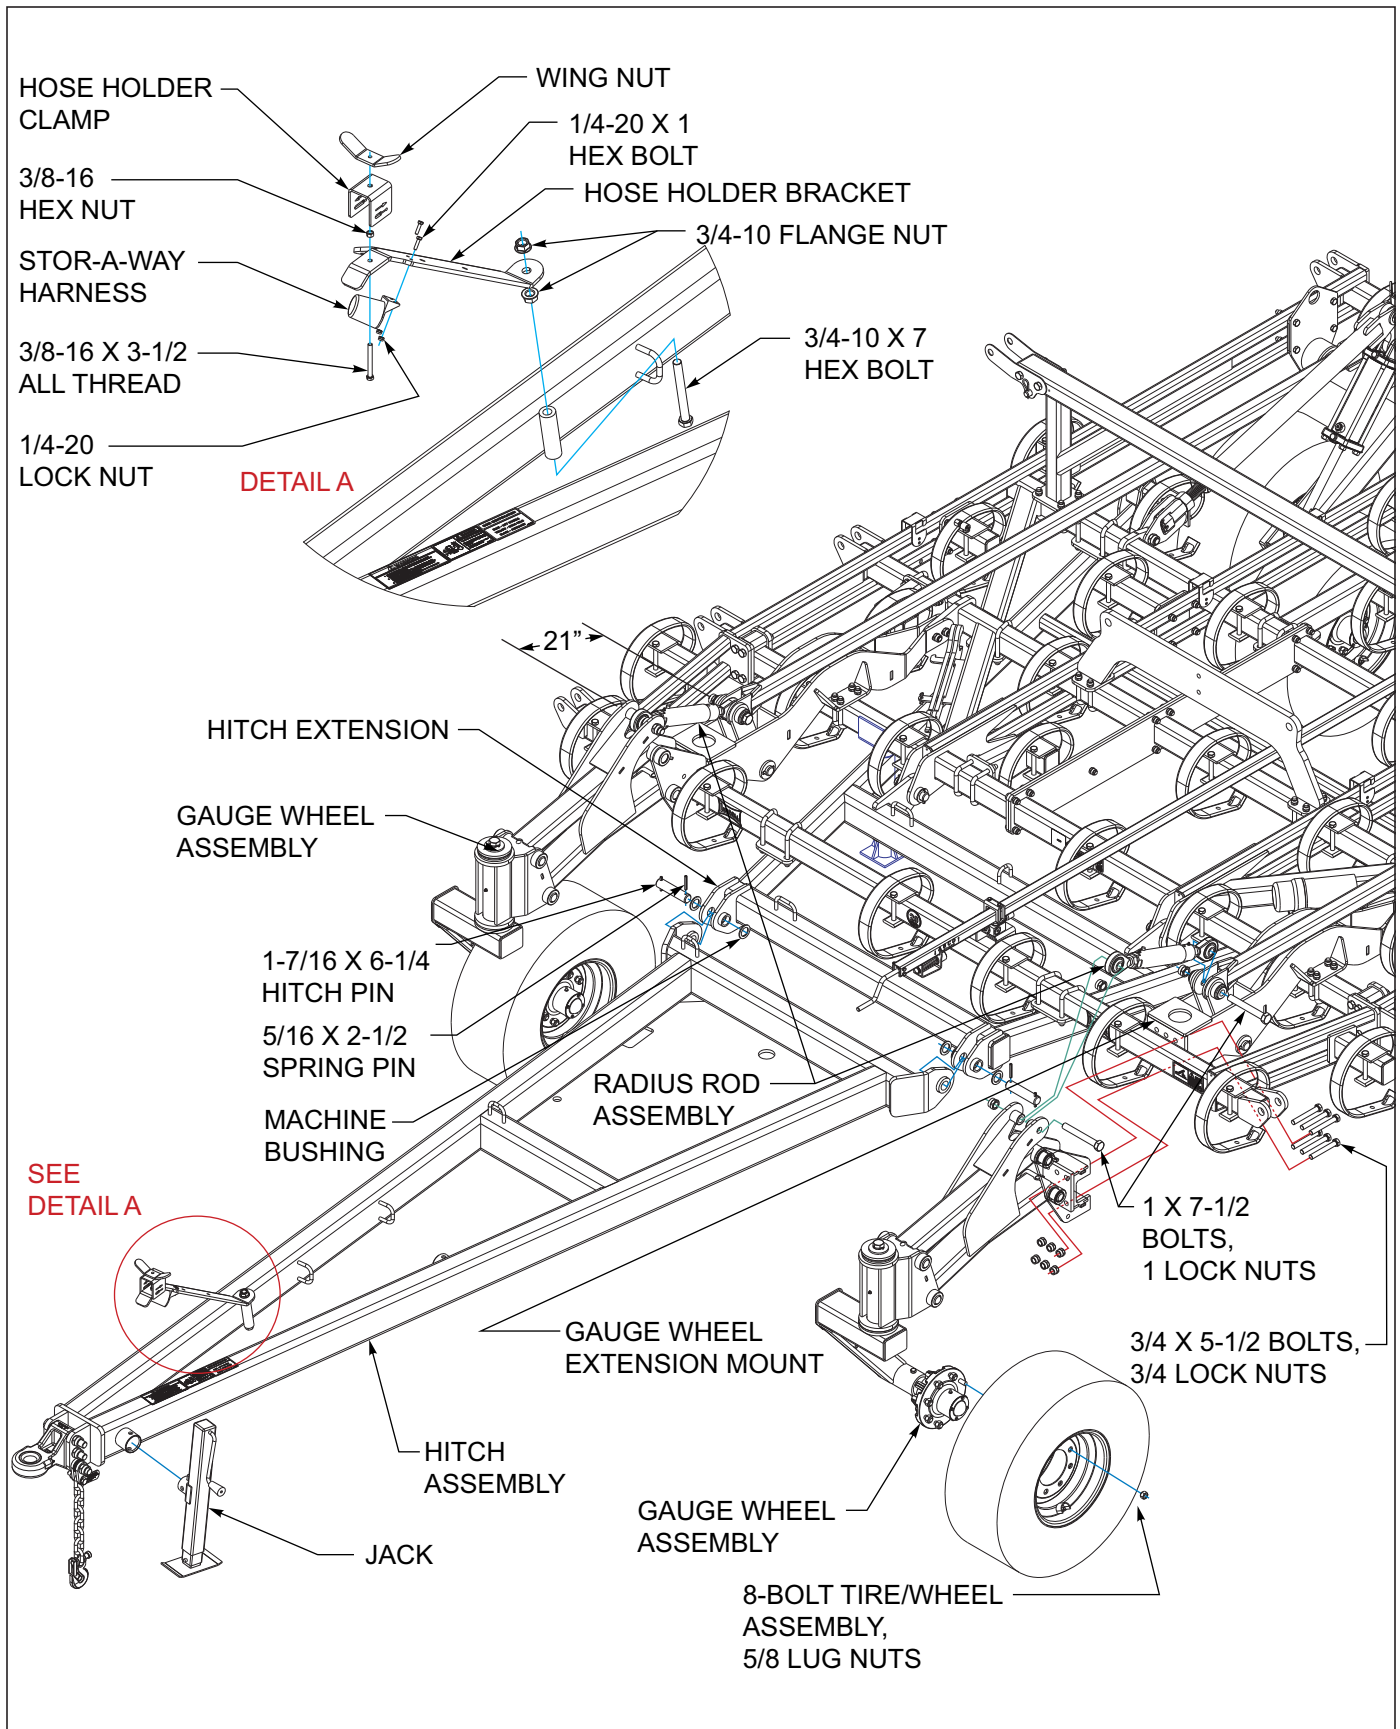

Figure 3-4: Hitch and Gauge Wheel Assembly
1. Connect hitch assembly to the front of the hitch extension using 1-7/16 X 6-1/4 hitch pins, machine bushings, and 5/16 x 2-1/2 slotted spring pins **See Figure 3-4.**
1. Remove the 1 x 7-1/2 bolt and 1 lock nut from the gauge wheel extension mount assembly **See Figure 3-4.**